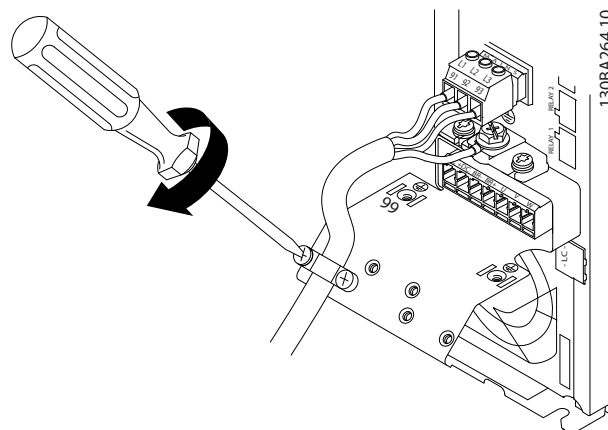

Figure 3.11 Mounting the Support Bracket
4. Mount the support bracket across the line cables and tighten the screws, as shown in Figure 3.11.